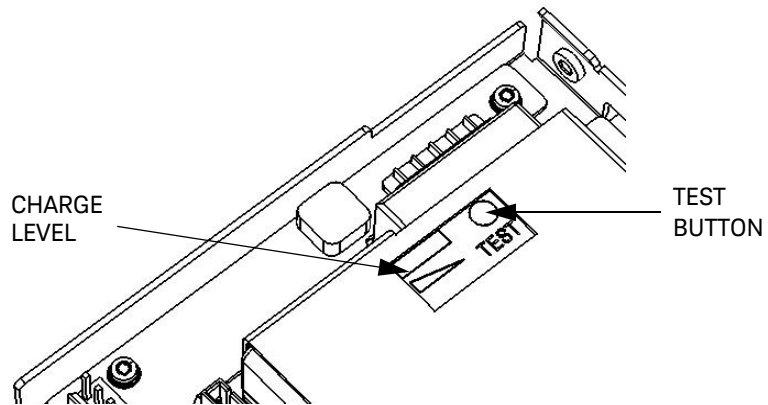

Figure 2-13 Test Button and Charge Indicator
- 7** On the Battery assembly, push and hold the white test button on the battery while observing the charge-level indicator. (See Figure 2-13). The charge level should be at least 25% to be functional. If the battery has been installed for over 24 hours with counter AC power connected the entire time, the charge level should be 75 to 100%. (Typically at least 25% after 1 hour charge.)